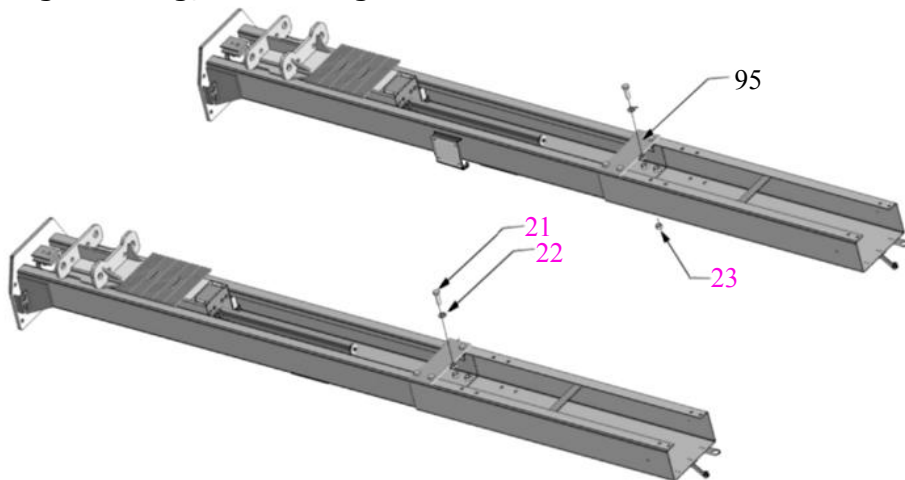

Fig. 19 High setting
1. High Setting, connecting the outer columns with the lower hole (See Fig. 19).